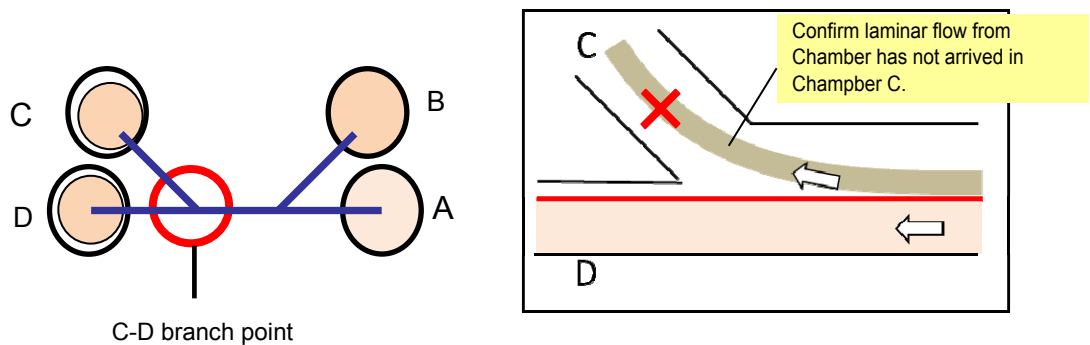

Fig 8. Observe C-D branch point under the microscope. Confirm laminar flow from Chamber A has not arrived in Chamber C.
- b. Observe the branch point of laminar flow to Chamber C and D under the microscope at forty times (Fig 8).